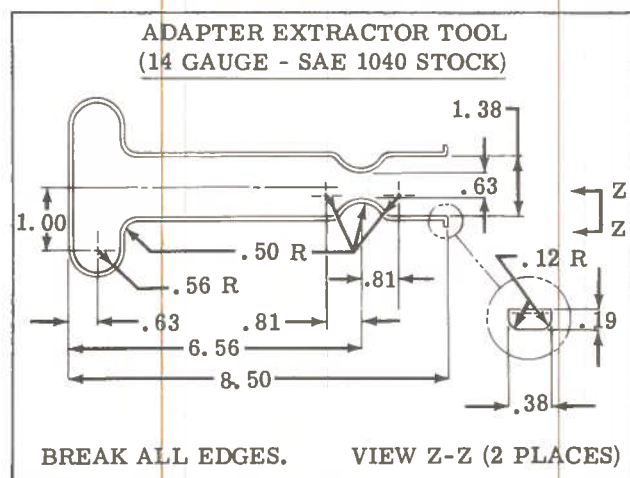

Figure 8
The adapter extractor tool is designed to remove the hub adapter from the body after the cartridge is removed (see figure 8). The extractor tool engages between the ball bearing and the hub adapter.
2. Shaft End - Remove the shaft key. Carefully pull the hub adapter from the body with the adapter puller tool (see figure 8). Remove spirolox ring next to the shaft bearing from the body, then tap the shaft and bearing assembly out. If it is necessary to remove the small snap ring and bearing from the shaft, support the bearing inner race in an arbor press, remove snap ring and press bearing off the shaft. Remove washer and then shaft seal and wiper from the body.